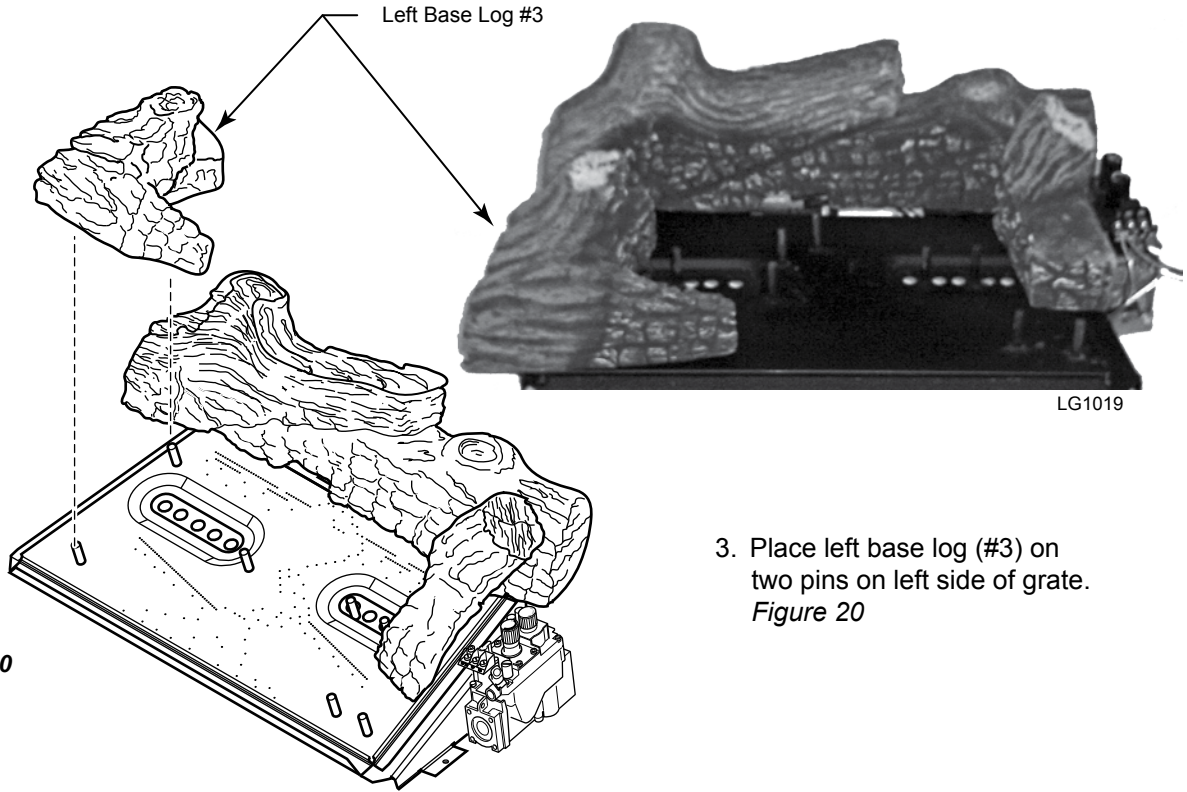

Figure 20
- 3. Place left base log (#3) on two pins on left side of grate. *Figure 20*